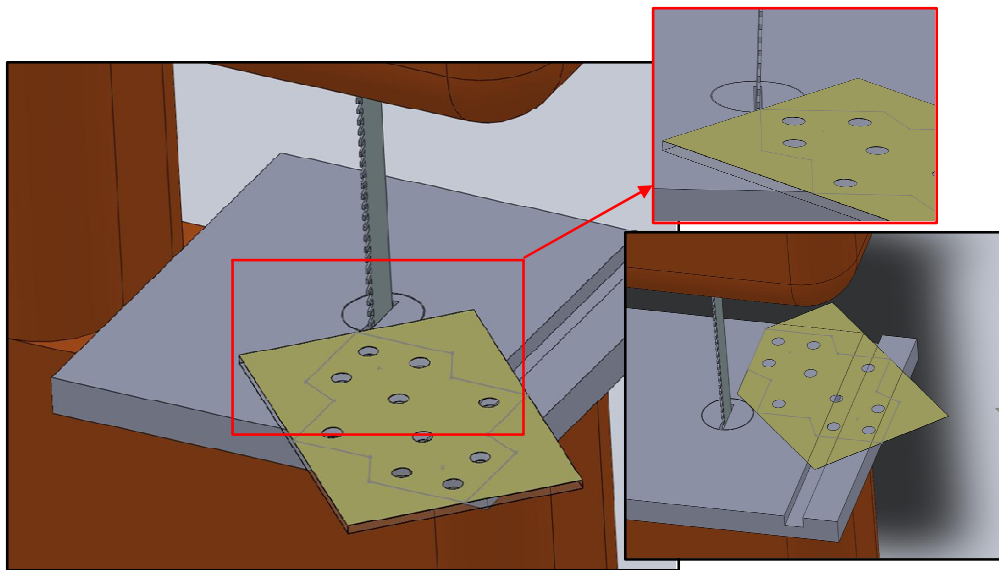

Figure 8: Cut off edge with blade aligned on the outside of the line
- A. When cutting out the piece, be sure to cut on the proper side of the line as shown in Figure 8.